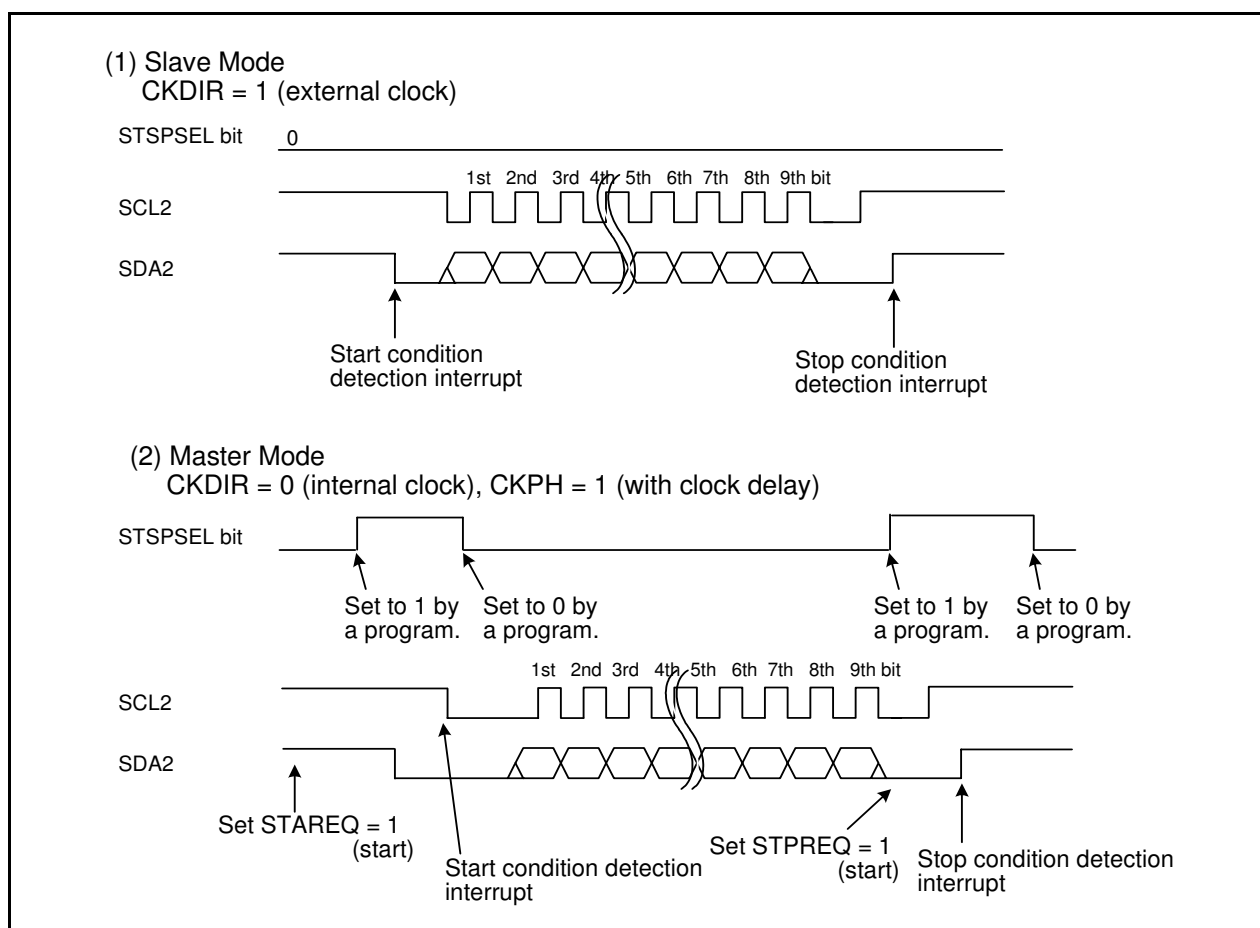

Figure 24.16 STSPSEL Bit Functions
- Refer to **Figure 24.16 STSPSEL Bit Functions**.
Table 24.13 lists the STSPSEL Bit Functions. Figure 24.16 shows the STSPSEL Bit Functions.